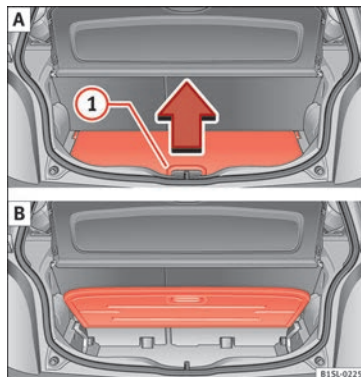

Fig. 138 A: open the boot variable floor. B: raised boot variable floor.
- To *raise* the floor, raise handle » **Fig. 138** ① in the direction of the arrow and pull from the floor all the way up » **Fig. 138 B**.